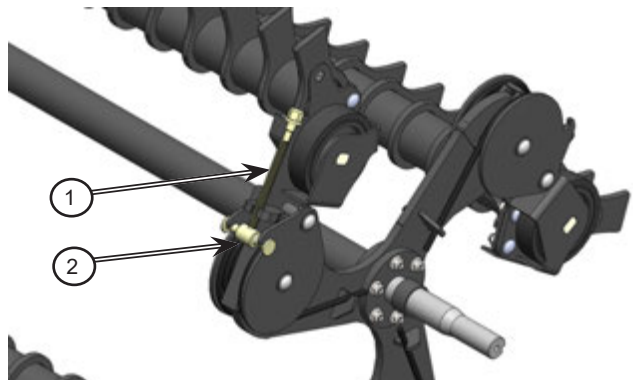

Figure 6.35: Install tension bolt and bar
4. Install a tension bolt (1) and bar (2) into the cover plate notches as per *Figure 6.35*.